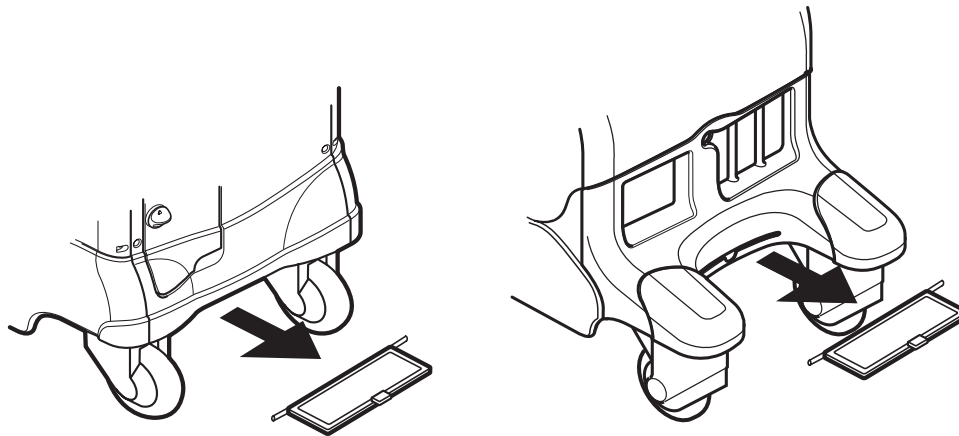

Figure 8-111 Removing the Air Filters
- 1.) Remove Air Filter as illustrated below. Refer to Figure 8-111 on page 8-61 .